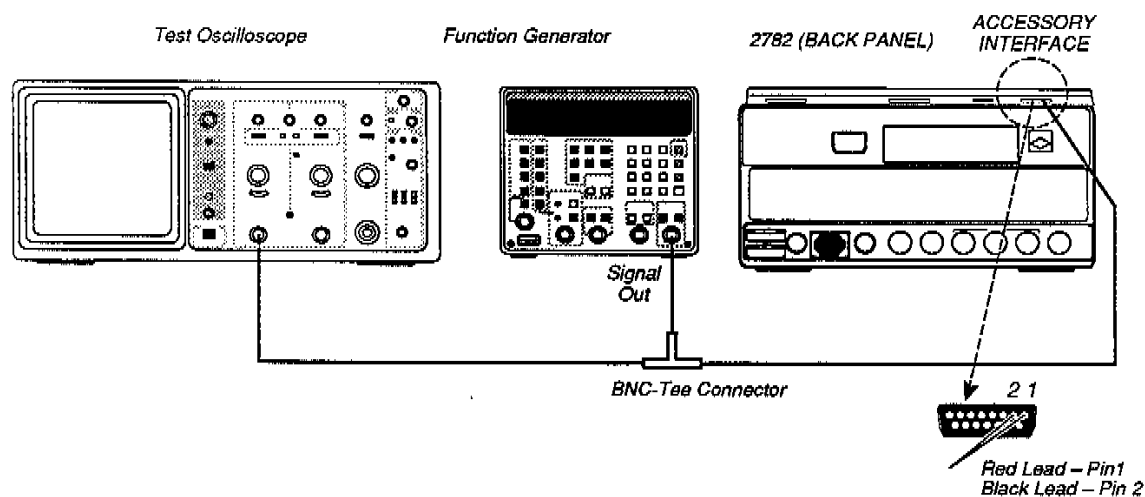

Figure 2-21. Test Equipment Connections for External Sweep Input Check.
- b. Connect a 50 Ω cable to the function-generator signal output (as shown in Figure 2-21), and connect the center arm of a BNC-Tee connector to the other end of the cable.